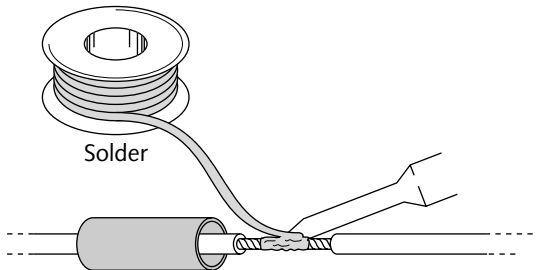

FIGURE 9-5: Twist bare wires together and solder.
- Twist the wires together and then solder, allowing solder to flow well into the connection—wire must be hot; be patient (see Figure 9-5).